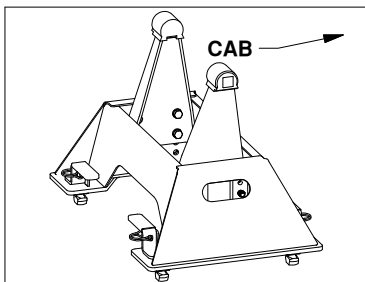
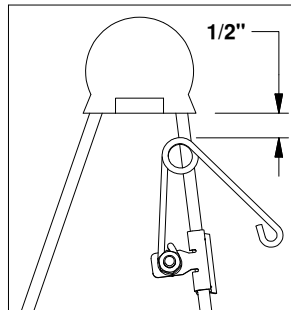

Figure B3: View of base.
Figure B4: Driver
- 2. Attach kit.** Locate the flange which will be closest to the truck cab on the driver side pivot arm, see Figure B3. The clip should be placed so that when the springs coil is in the line with the edge of the arm there will be 1/2" of clearance between the bottom of the rubber bumper and the top of the spring, see Figure B4. Drive the clip securely onto the flange with a hammer.